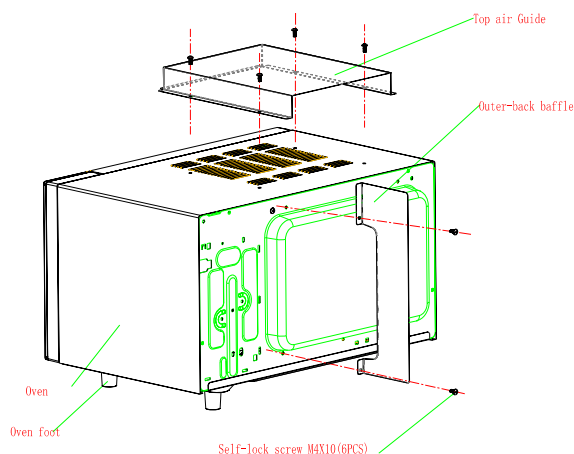
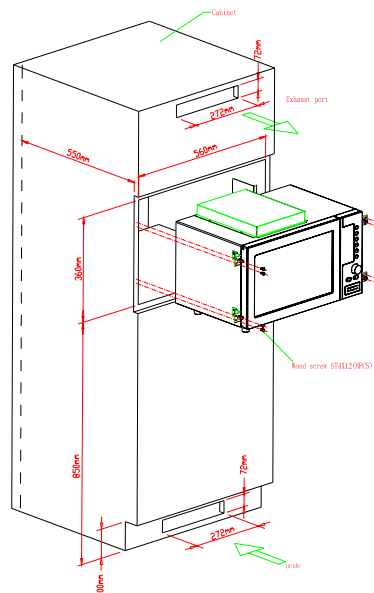

Fig.1.
Fig.3.
b) Net depth $\geq 550\text{mm}$, as shown in Fig.3.
② INSTALLATION:
a) Secure top air guide onto housing while outer-back baffle onto outer-back plate with self-lock screws, as shown in Fig.1.
c) Place microwave oven into cabinet, then fix it with wood screws, as shown in Fig.3.